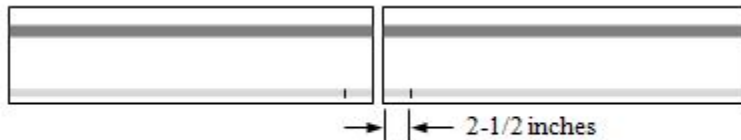

Figure 110J *Heat Measure Marks*
Step 1: Place a mark on both sides of the rail base of each rail, 2-1/2 inches from the end of each rail. (See Figure 110J)